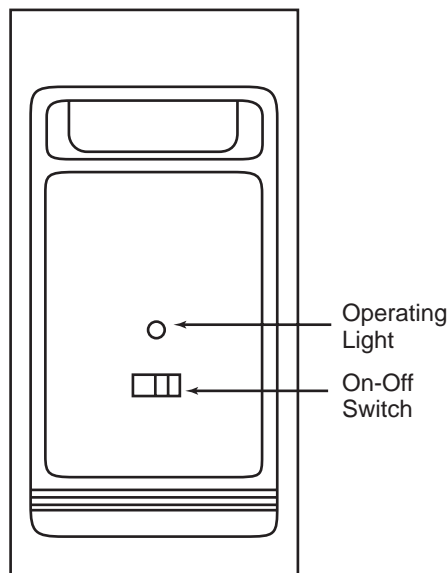

Figure 20
1. With the 120 VAC power turned on at the circuit breaker for the furnace, push the air cleaner ON-OFF switch to the "ON" position (Figure 20).
2. Push the ON-OFF switch on the power pack to the "OFF" position (Figure 20). Wait 15 seconds and both the power pack and the collecting cell(s) will be automatically discharged.